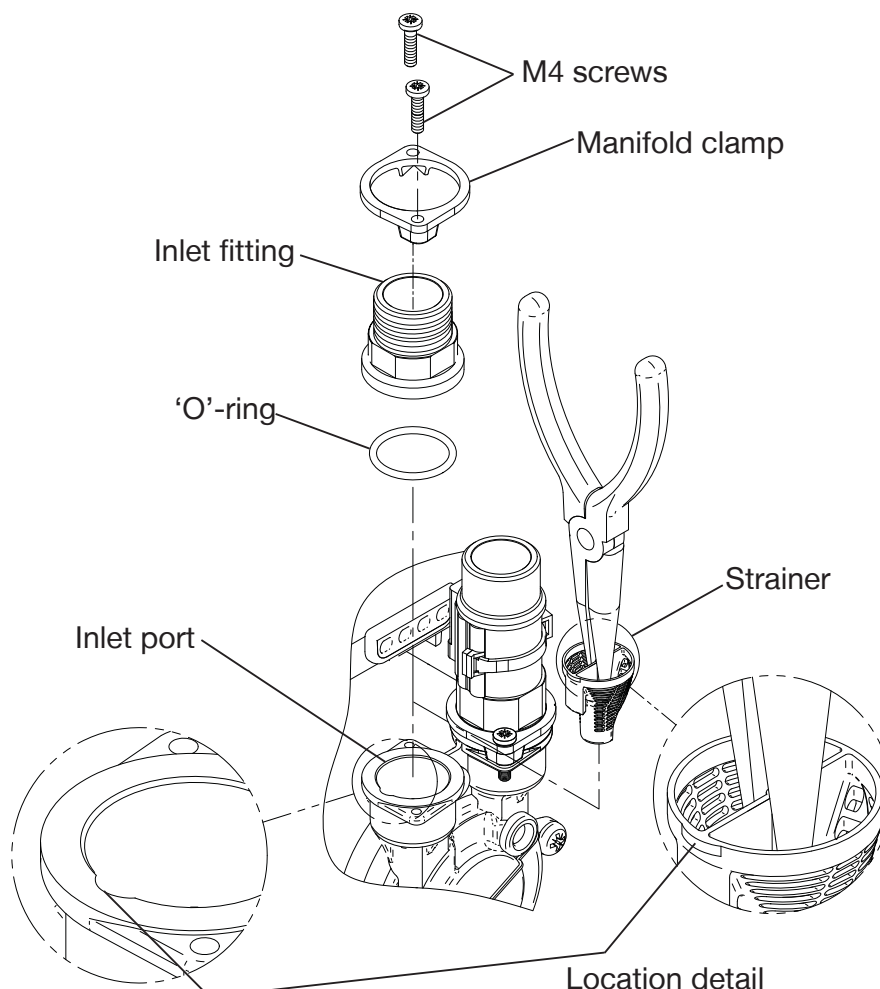

Fig. 15
6.12 **Inlet strainer:** The inlet strainers may require periodical cleaning. The frequency of this operation is dependent upon installation conditions. The strainer is located in the inlet assembly of the pump casing (Fig. 15) and is removed as follows:-
- d) Remove M4 screws (2 off) from inlet assembly, lift brass inlet fitting (with 'O'-ring) and clamp away from pump casing (Fig. 15).
- e) Remove strainer with long nose pliers noting location lug position upon removal (Fig. 15) and clean thoroughly.
- f) Refit strainer taking care to position lug in body inlet port location slot (Fig. 15) and re-assemble pipework. Tighten M4 clamp screws to 1.5 Nm torque.